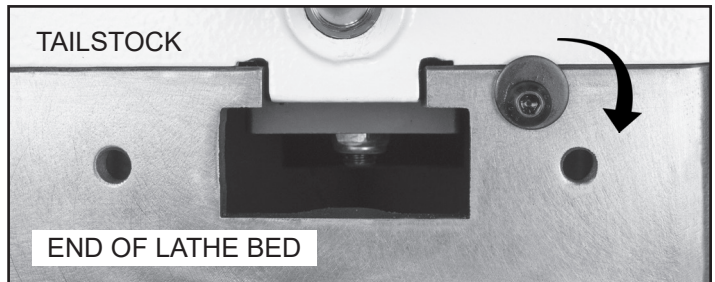

FIG. 5
- At the right end of the Bed, with a 5mm hex wrench loosen the Bolt (#11C) so that the offset Stop Washer (#10C) swivels down below the bed surface. Fig. 5.